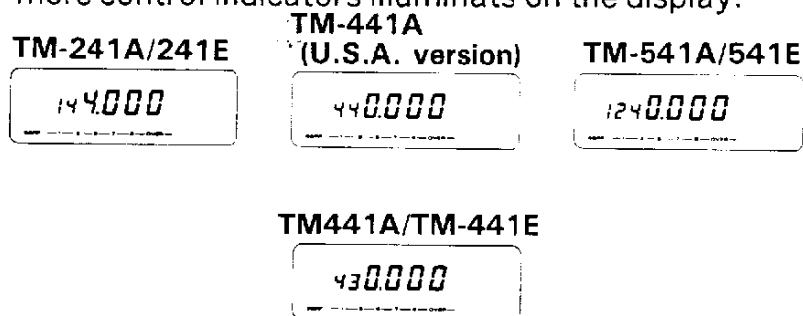

Fig. 1
2. Turn on the Power Supply and then turn on the transceivers POWER switch. The display should indicate a frequency. Fig.1 shows examples of frequencies that will appear on the various models. In addition to the frequency you may see one or more control indicators illuminats on the display.